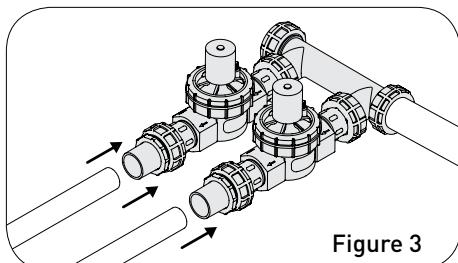

Figure 3
- For  $\frac{3}{4}$ " PVC pipe, connect directly to Transition Adapter (F) (Figure 3)